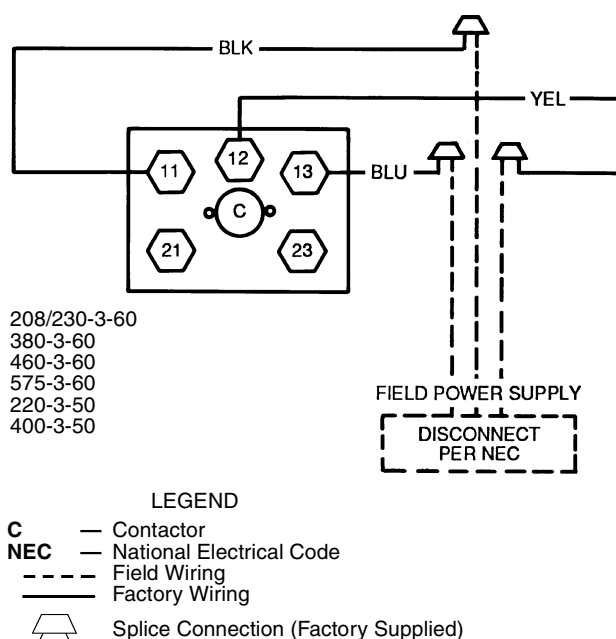

Fig. 5 — Power Wiring Connections
2. Install power lines to connections as shown in Fig. 5. Wrap connections with electrical tape.